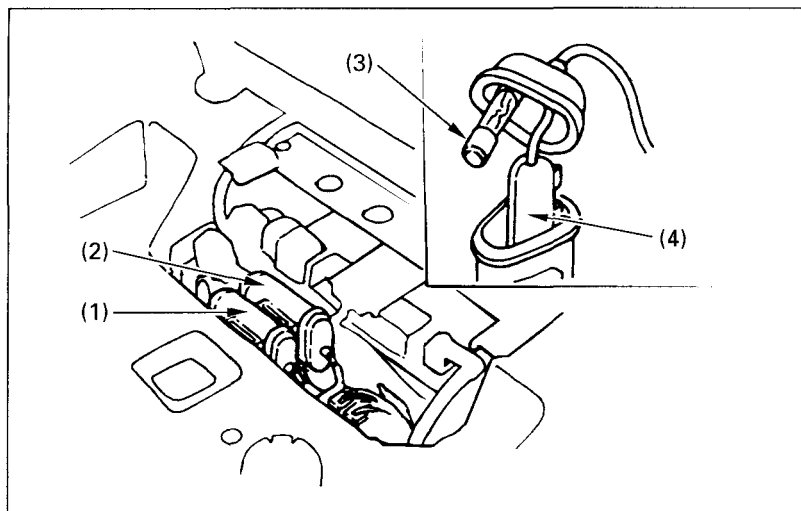

Fig. 4-20      (1) Main fuse (Red wire)      (3) Spare fuse
As illustrated in Fig. 4-20, the main fuse (1), the sub fuse (2) and the spare fuse (3) are located in the battery compartment. (The main fuse is connected to the red wire.)